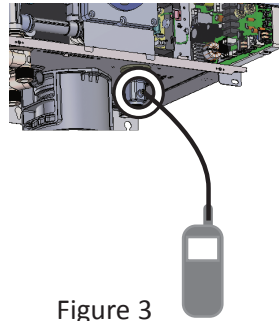

Figure 3
5. Connect the manometer to the pressure port and zero the manometer. (Figure 3)